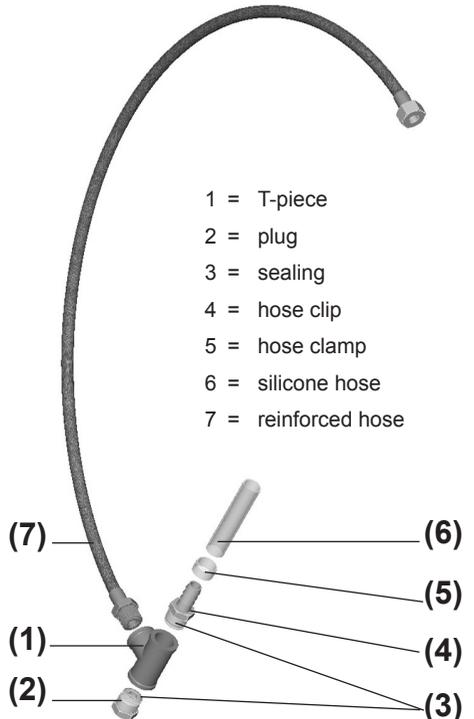

Fig 2
- Please connect the water tank with the vaporizer according to Fig. 2 and Fig. 6.
Instead of the plug (Fig 2) please install the drain plug.